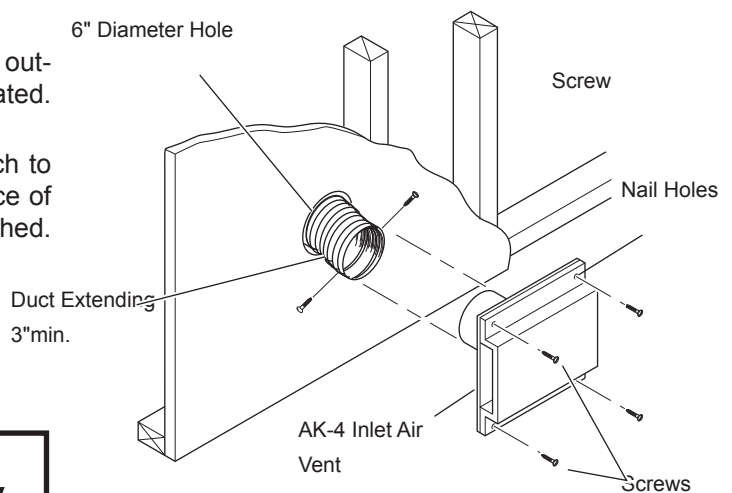

Figure 28 - Combustion Air Assembly for Model No. AK-4
5. Cut a 6-inch diameter opening for model AK-4 in the outside wall covering where the outside vent is to be located. *Figure 28.*